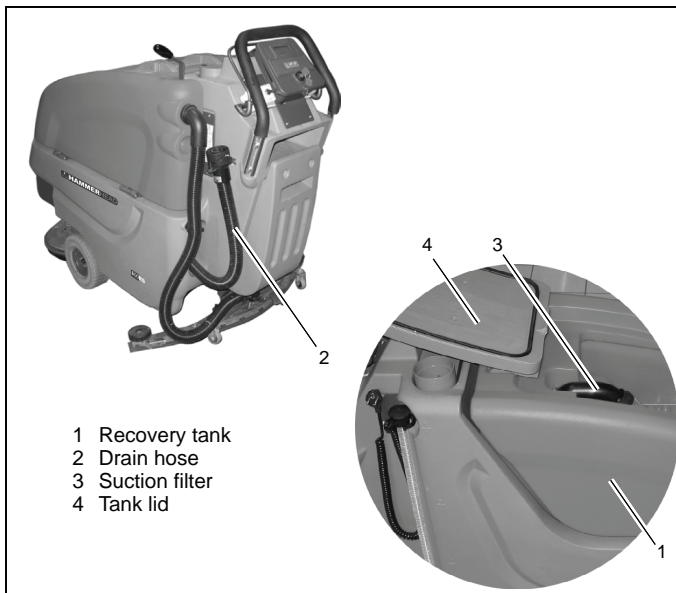

Fig.9
Clean recovery tank (Fig. 9/1) at daily intervals, as required or upon acoustic signal (increased vacuum motor speed).
- 4. Take drain hose (Fig. 9/2) from holder and empty recovery tank completely.
Clean recovery tank (Fig. 9/1) at daily intervals or as required.
- 2. Open tank lid (Fig. 9/4) of the recovery tank.
- 3. Take drain hose (Fig. 9/2) from holder and empty recovery tank completely.
Check suction filter (Fig. 9/3) for function at daily intervals and clean if required. The suction filter is clipped and can be easily removed.